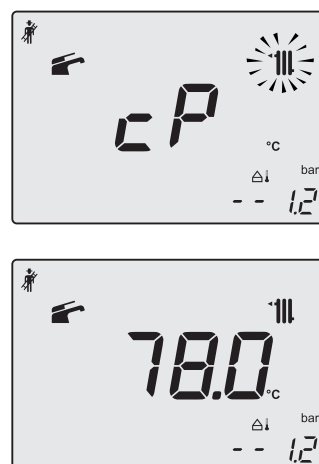

Figure 11.9
- 22 Press key G to vary the output in chimney sweep mode: when the display shows the letters **cP** that alternate with the heating water temperature value (e.g. 78), the "chimney sweep function" is at maximum output in heating mode (Figure 11.9);